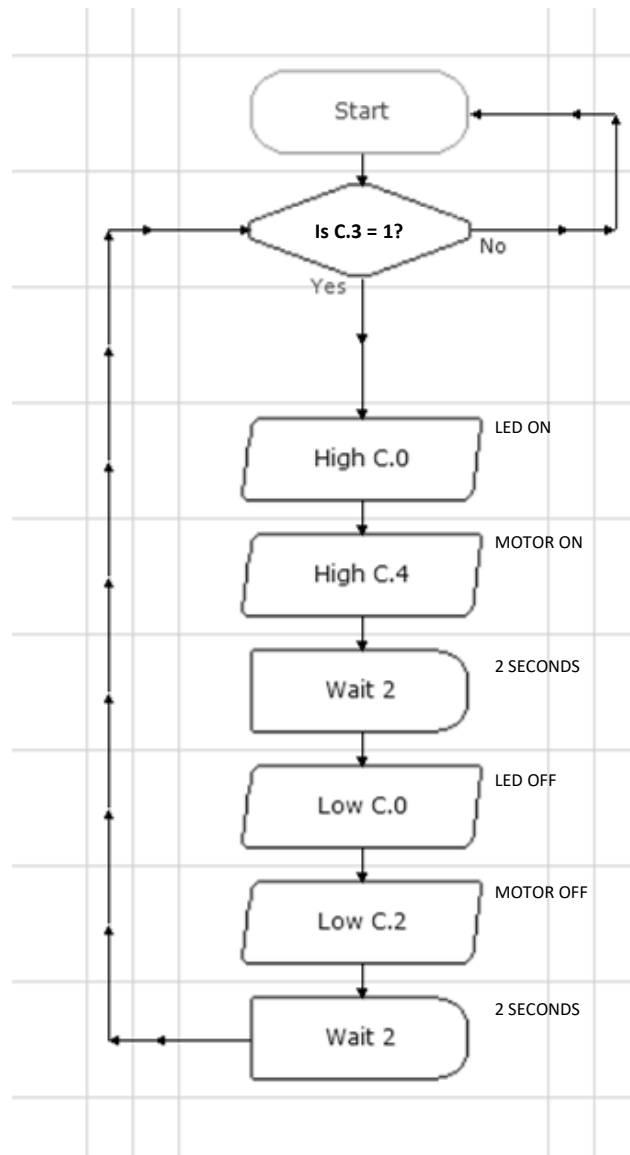
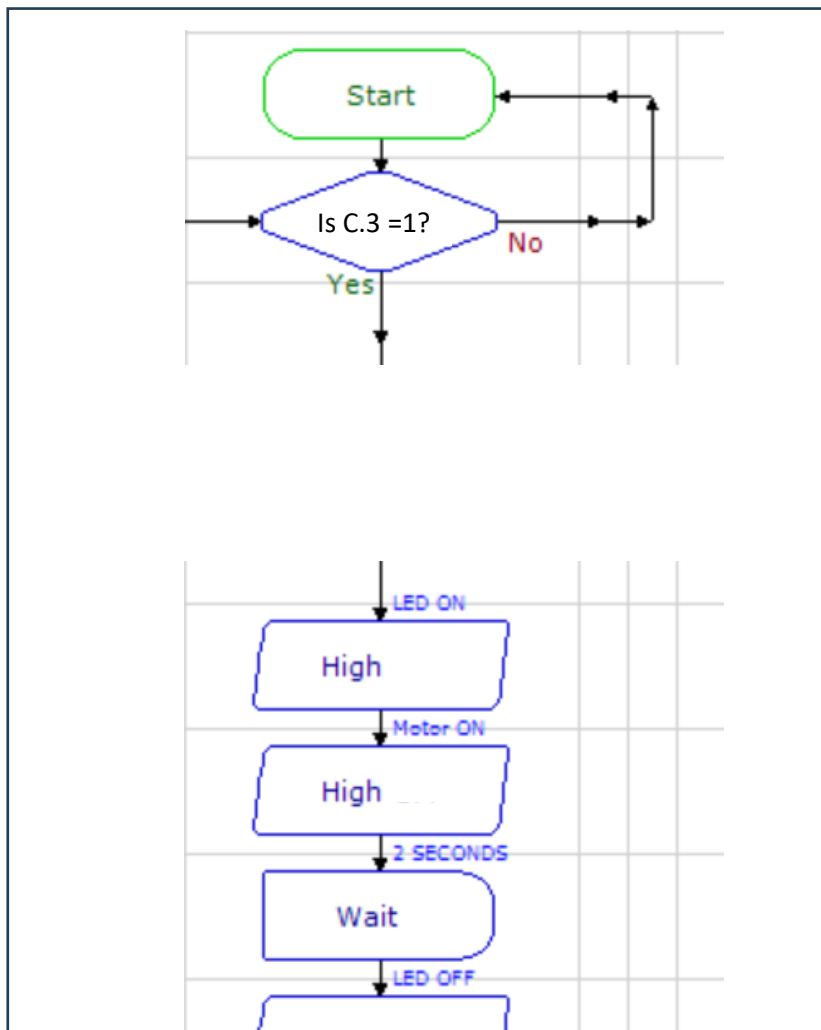

Figure 15
Figure 16
20. Figure 15 shows the flowchart used to program a part of the microcontroller circuit. Its function is written here for reference.
d. On Figure 16 add **ONE** command, that would include another decision to the programme in Figure 15.